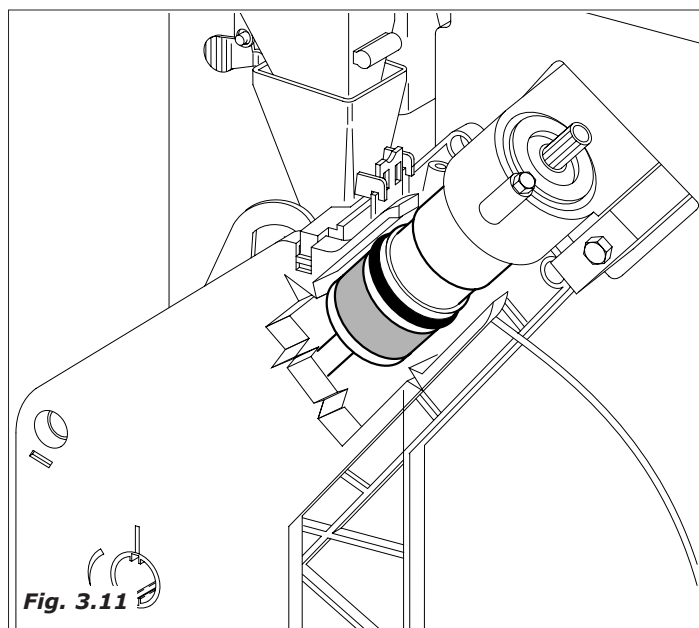

Fig. 3.11
- the doser electromagnet is activated , causing the opening of the door and consequent fall of the coffee into the brew chamber (Fig.3.11).